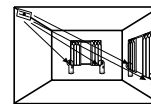

Fig. 5
- **Corner Mounted** (choose corner opposite glass to be protected see fig. 5).